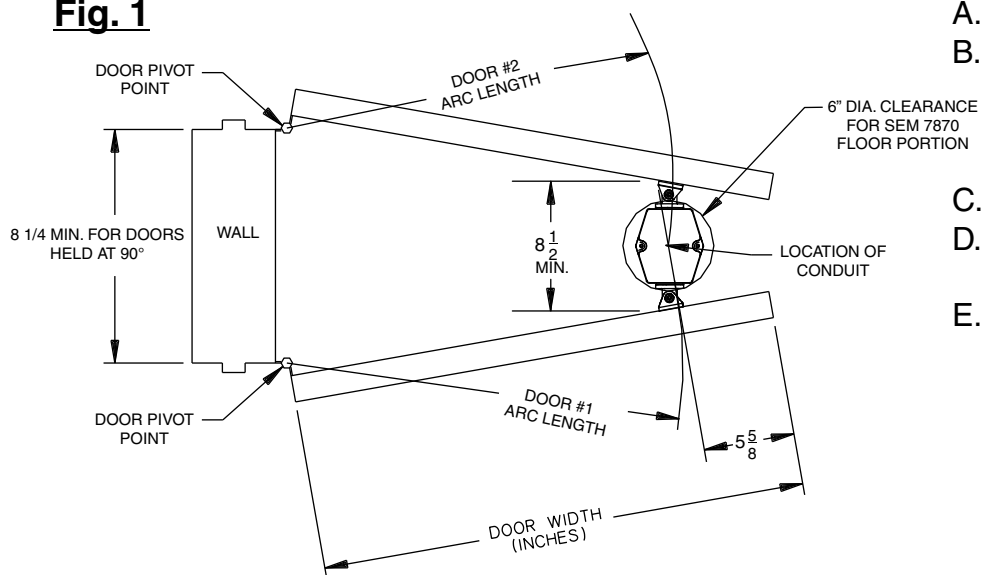

Fig. 1
- Guide the conduit through the hole in the base and snug up the conduit nut. Square up the base to the wall, as shown in Fig.1.